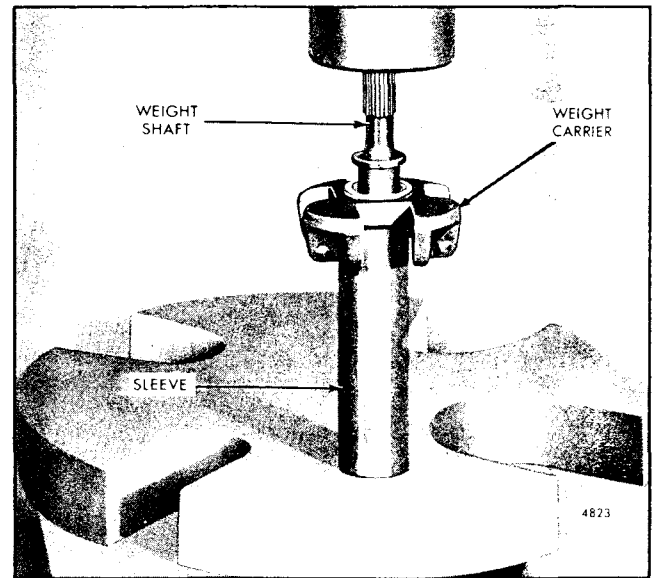

Fig. 13 - Installing Governor Weight Shaft in Weight Carrier
- a. Support the weight carrier, rear face up, on a sleeve on the bed of an arbor press as shown in Fig. 13.